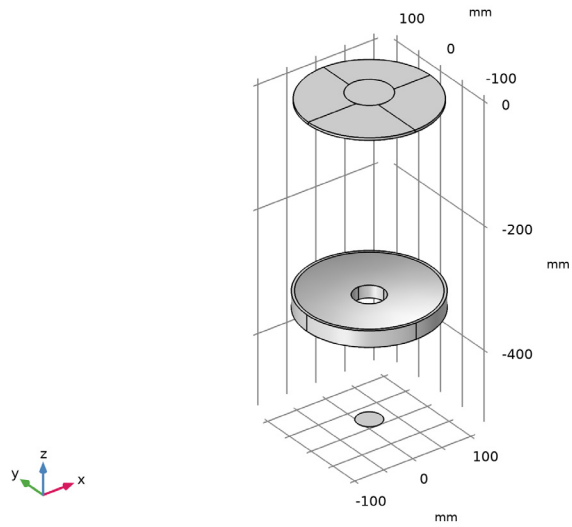

Figure 2: The Schmidt-Cassegrain telescope geometry sequence.
The resulting Schmidt-Cassegrain telescope geometry sequence is shown in Figure 2. Detailed instructions for creating the geometry can be found in Appendix — Geometry Instructions.
- 8 Click the  **Orthographic Projection** button in the **Graphics** toolbar. Compare the resulting geometry to Figure 2.